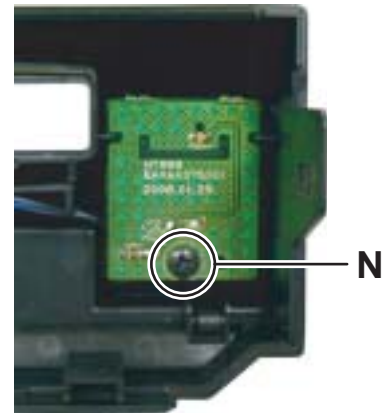

Fig.17
3.1.10 Removing the Front key board (See Fig.17)